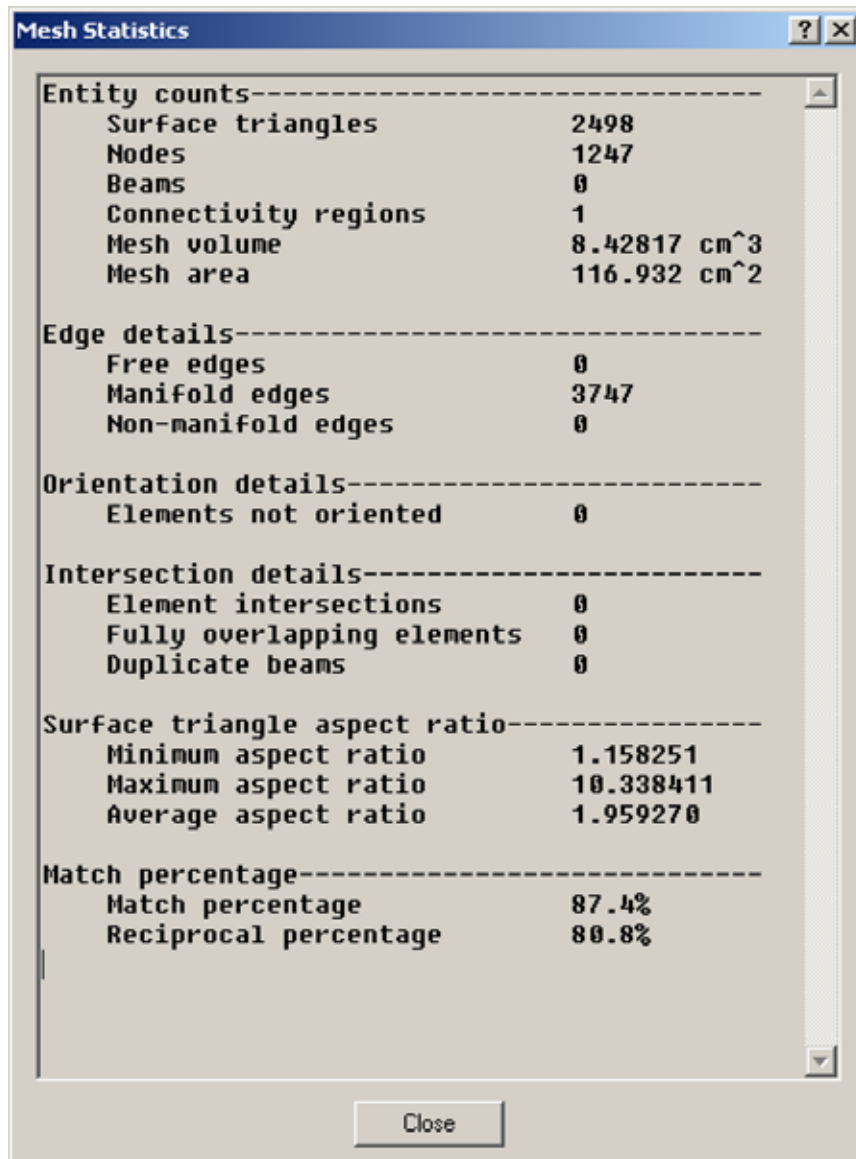

Figure 7: Mesh Statistics Report
2. Scan the Mesh Statistics report for any quality issues, as shown in **Figure 7** above.